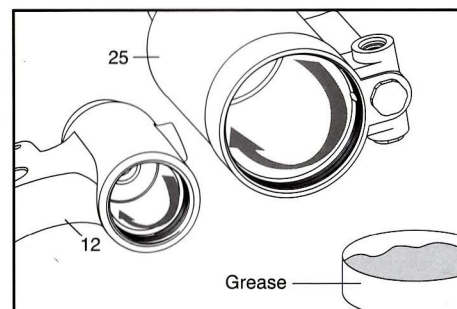
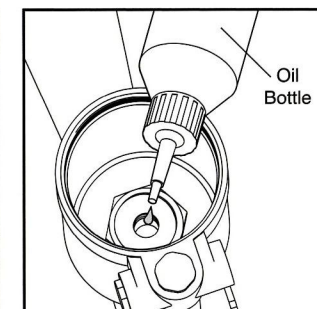

Fig. 8
Fig. 9
3. Check and replace the worn Buffer Ring (47), Air Piston Ring (48) and Air Cylinder End Cap O-Ring (52). Also check and replace the worn Air Piston Rod (49) and the damaged Air Piston (50). Finally, check the Air Piston Lock Nut (51) and lock it firmly.
4. Use the Wrench 27 (58) to unscrew the Head (2), only separate the Rear Jaw Case (7) from the Lock Nut (9) and Lock Washer (8) by the Wrench 22 (57) and Wrench 27 (58).
5. Carefully dismantle the Oil Cylinder End Cap (22), remove the Hanging Bracket (21) and Hanging Bracket O-Ring (20), and then take out the Large & Small Return Springs (18 & 19), slowly press the threaded end of Oil Piston (15) to take out the Oil Piston Assembly (15AY). **Pay special attention to dismantle the Oil Cylinder End Cap (22), not to let the strong force of Large & Small Return Springs (18 & 19) jump out to hurt people. Be careful not to scratch the rod of Oil Piston (15) and the inner wall of Oil Cylinder (12).** Check and replace the weak or broken Large & Small Return Springs (18 & 19).
6. Firstly use a long stem socket 35 mm to unscrew the Oil Cylinder Lock Nut (29), use a suitable diameter pin carefully to punch out the Lever Pin (35), and then carefully use a hex wrench 3 mm to unscrew the Lock Screw (26), finally separate the Oil Cylinder (12) from the Air Cylinder (25).
7. **Check and replace the worn Oil Cylinder O-Rings (10), Oil Cylinder Back-Up Rings (11), Oil Piston O-Ring (16), and Oil Piston Back-Up Ring (17). Also check and replace the worn Oil Piston (15).**
8. Grease the inner walls of Oil Cylinder (12) and Air Cylinder (25) (Fig.8), also grease the Oil Piston O-Ring (16) and Air Piston Ring (48). Reverse above steps to reassemble the Oil Cylinder (12) and Air Cylinder (25) together by aligning and using a hex wrench 3 mm to fasten the Lock Screw (26), and then fasten the Oil Cylinder Lock Nut (29) by a long stem socket 35 mm. Finally reassemble the Trigger Lever (32) back to the Air Cylinder (25) by punching the Lever Pin (35) into the original pin holes carefully.
9. Reassemble the Oil Piston Assembly (15AY), Large & Small Return Springs (18 & 19), Oil Cylinder End Cap (22) along with Hanging Bracket (21) and Hanging Bracket O-Ring (20), and the Spent Mandrel Container (24).
10. **Put the tool upside-down, use the oil bottle to refill new hydraulic oil into the Oil Cylinder (12) through the Air Cylinder (25) until oil is flush with the upper Oil Cylinder O-Ring (10). (Fig.9) Make sure not to overfill oil, and rest for a while until the oil stops releasing air bubbles.**